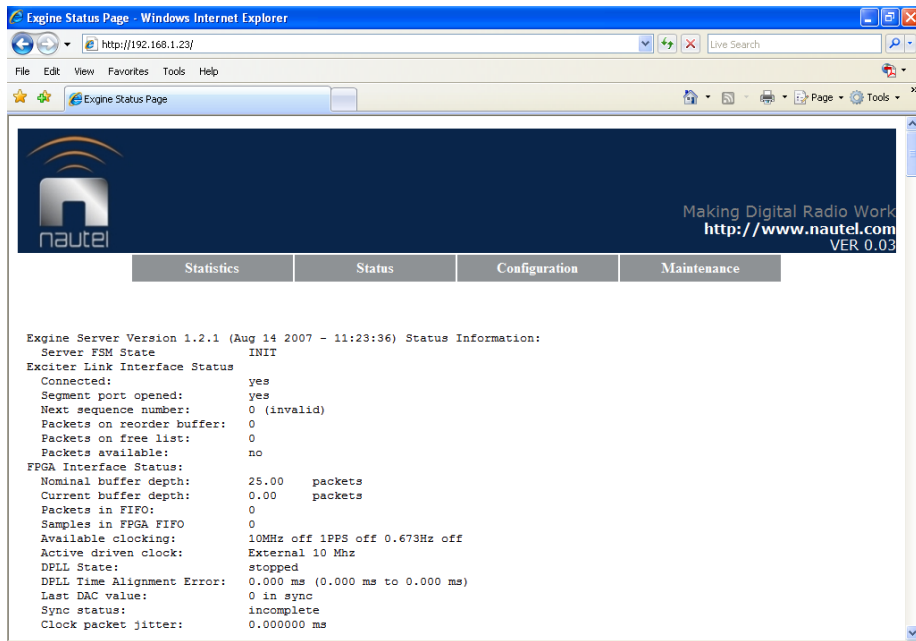
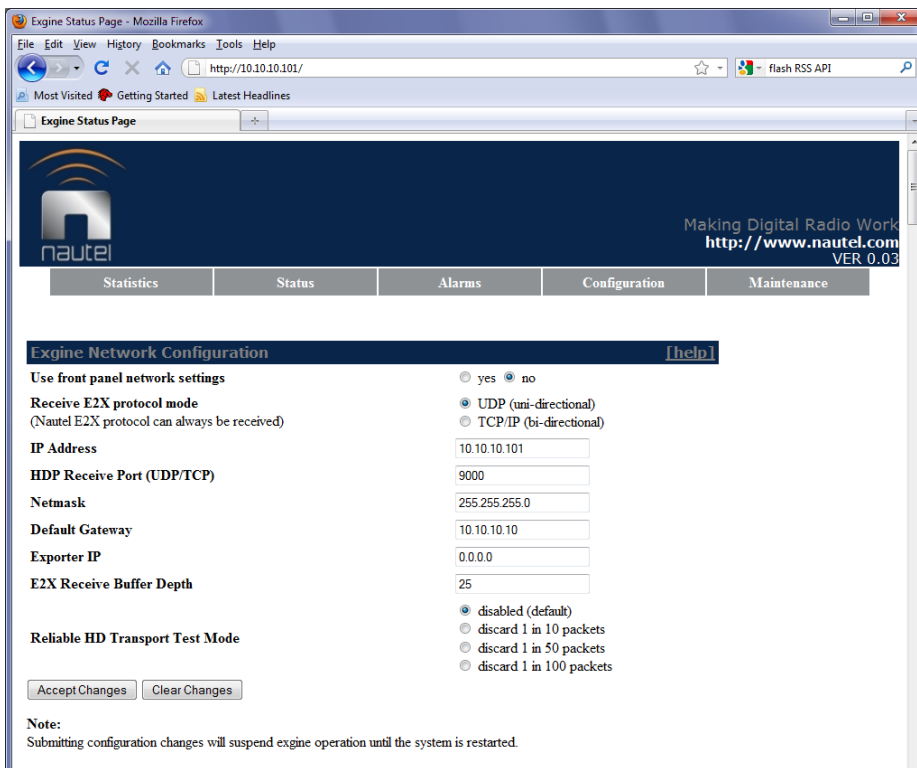

Figure 2-3: Main Screen (Status tab shown)
Figure 2-4: Network Configuration Screen
- (f) Verify that the page in Figure 2-3 appears in the browser. Select the **Configuration** tab and then select **Network Configuration**. Verify that the page in Figure 2-4 appears.